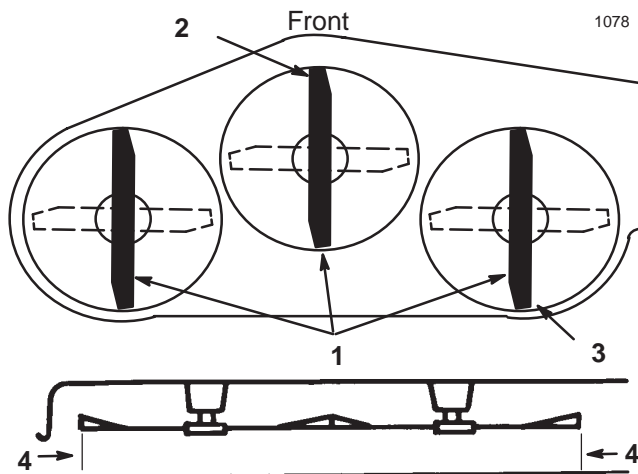

Figure 10
3. Carefully rotate blades so they are facing front and rear (Fig. 10).
4. Measure between the tip of the front blade (Fig. 10) and the tip of the rear blade to the flat surface. If the front blade tip is not 1/8–1/4" (4–7 mm) lower than the rear blade tip adjust rear adjustment link.